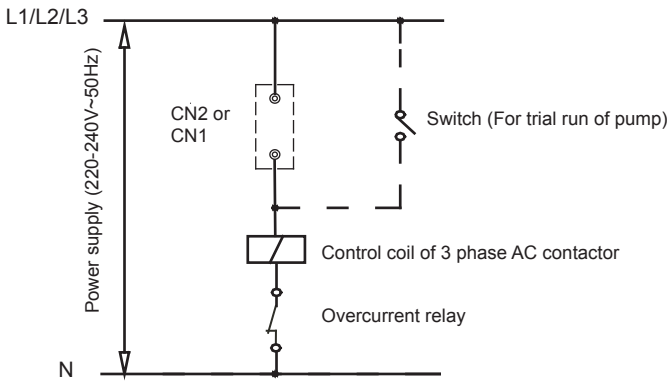

Fig. 8-22-3
- Step 11. HTW-MCSU30RN1L and HTW-MCSU60RN1L Connection of control wires of pump: the control wires of AC contactor of pump must pass the connection terminals CN1 or CN2 of the main unit, as shown in Fig. 8-22-3.